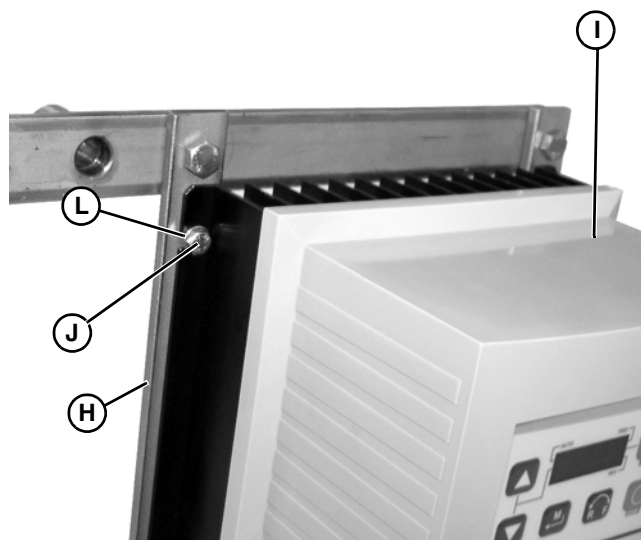

Figure 7
- Attach controller mounting bars (Figure 7, item H) to controller (Figure 7, item I) with washers (Figure 7, item L) and screws (Figure 7, item J).